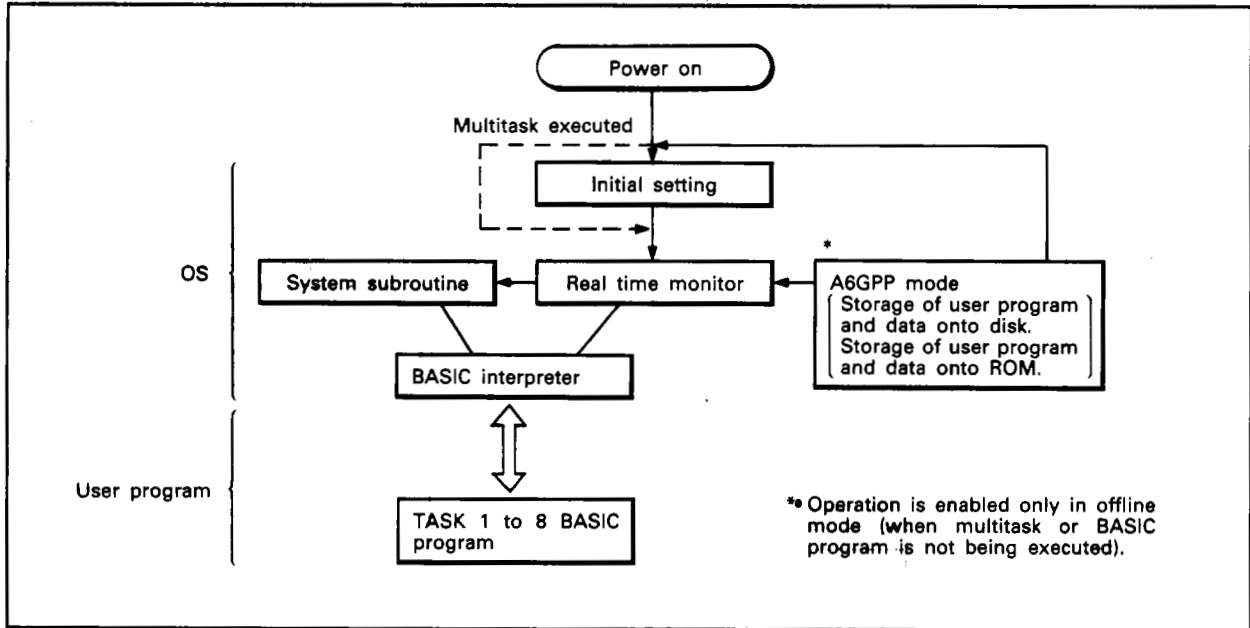

Fig. 3.1 Software Configuration
- (1) As shown in Fig. 3.1, a maximum of 8 user programs may be processed in parallel under the control of the real time monitor.
- (2) "Power on", "interrupt from ACPU", and "real time interrupt" are available as starting conditions for the user program.
- (3) Each task can only be written in BASIC.